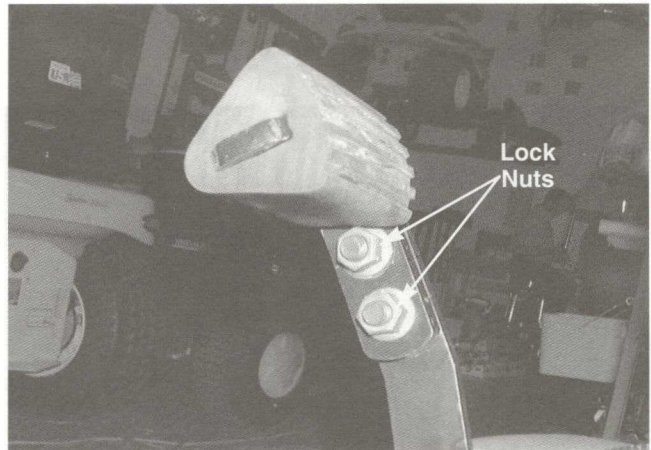

FIGURE 11.
19. Remove both hex flange lock nuts and carriage bolts securing the brake pedal to the brake arm assembly using a 9/16 socket. See figure 11.